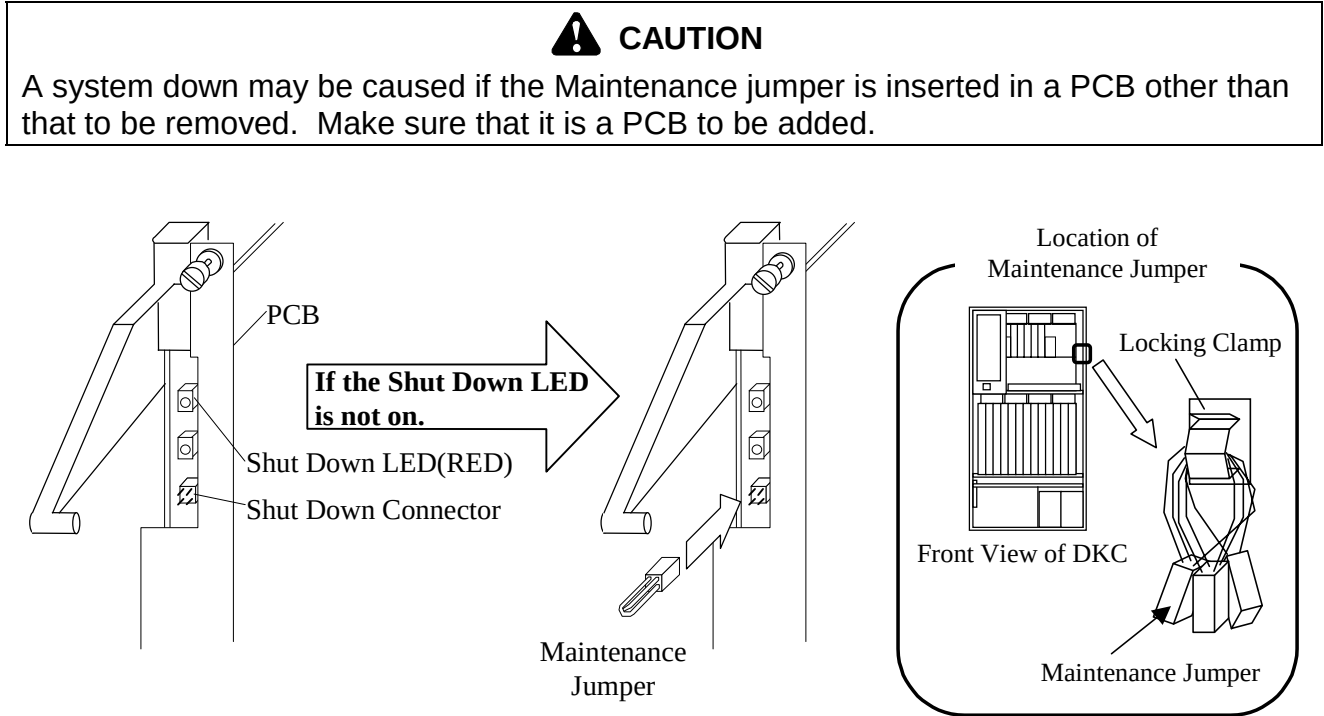

Fig. 3.9.1-4 Location of the Shut Down LED
- a. While referring to Fig. 3.9.1-4 and Table 3.9.1-6, check the Shut Down LED on the Cache Memory PCB in the Front Logic Box. Connect the Maintenance Jumper to the Shut Down Connector if the Shut Down LED is not on. (This procedure [6-1. a.] is not valid for a New Installation.)